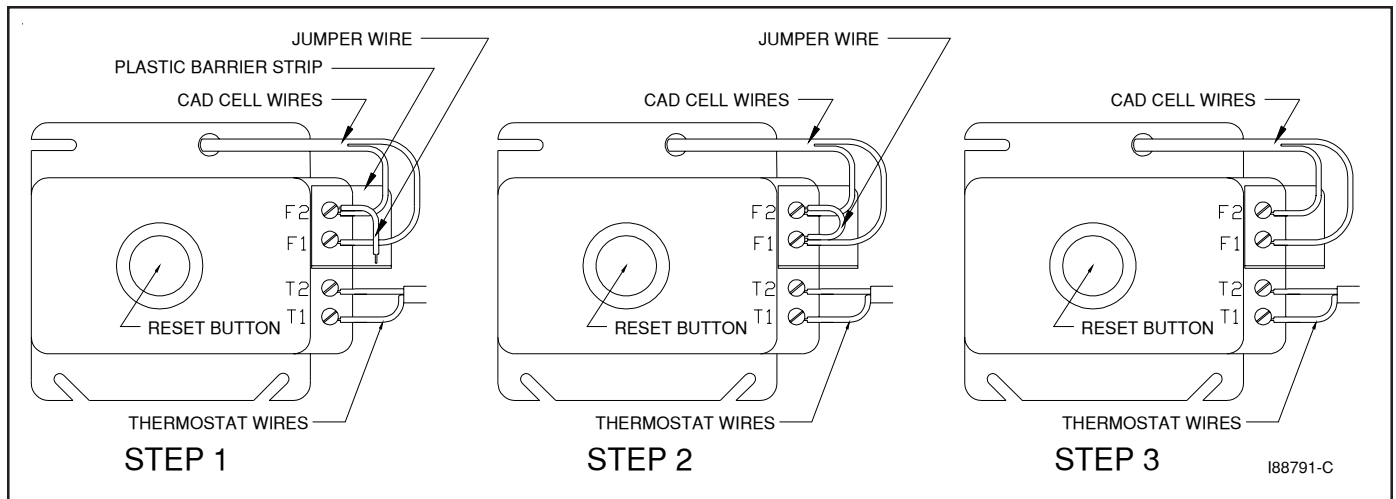

Figure 5D - Jumping the Oil Primary Control
a. Refer to Figure 5D, Step 1.
ATTENTION: Ensure that the plastic barrier strip is in place between the "F" and "T" terminals as shown in Figure 5D before proceeding; failure to do so will result in damage to the primary control.
f. Refer to Figure 5D, Step 2.
ATTENTION: *Never* touch a jumper wire from an "F" terminal to a "T" terminal on the oil primary control. This will severely damage your primary control. Make sure that the plastic barrier strip is in place between the "F" and "T" terminals as shown in Figure 5D.
16. Make sure that the cad cell wires are connected to the "F" terminals as illustrated in Figure 5D, Step 3. Save the jumper wire for future pump priming.